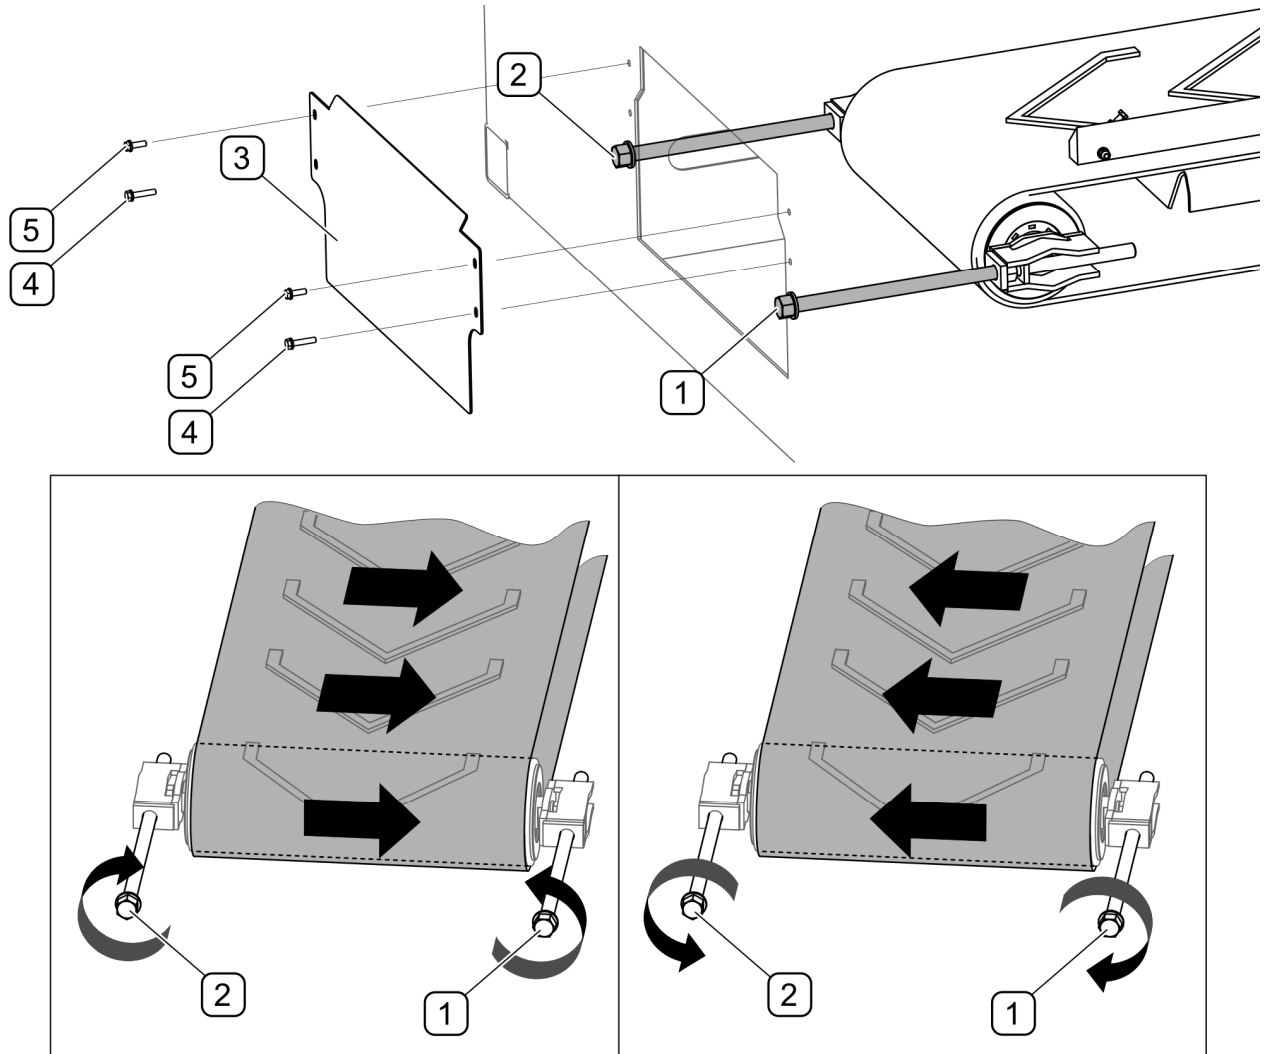

FIG. 5.5 Adjustment of tightening roller
Before starting conveyor belt adjustment (FIG. 5.5), unscrew bolts (4) and (5) and remove cover (3). Start the carrying vehicle's external hydraulic circuit that supplies the machine. Activate "Unloading" function in "Counters" menu on the control panel. A detailed description can be found in section *4.9 UNLOADING*.
Conveyor belt is adjusted during conveyor operation by means of tensioning bolts (1) and (2) located on the front wall of the tank (FIG. 5.5). Depending on shifting of conveyor belt (FIG. 5.5), choose proper rotation direction of tensioning bolts (1) and (2). During the adjustment, make one turn of each bolt and wait for some time to see the effect of the adjustment. Repeat the activity until moving conveyor belt is positioned in the middle of the conveyor roller.
Conveyor belt can be tightened when the conveyor drive is switched off. Conveyor belt is tightened by means of bolts (1) and (2) located on the front wall of the tank (FIG. 5.5). Turn both bolts (1) and (2) clockwise using force of about 15 Nm. To avoid shifting the belt sideways to the edge of the roller, turn both bolts by the same number of rotations.